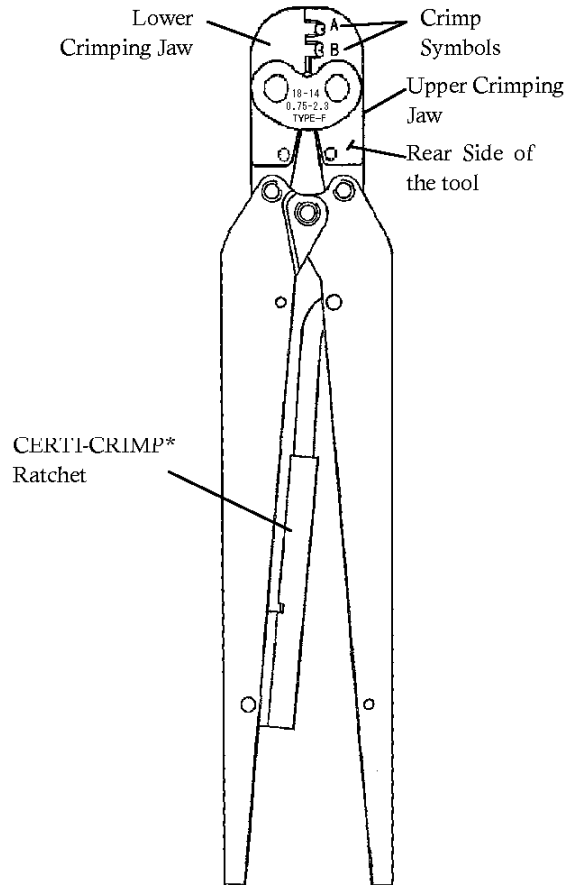

Fig.1
1. The tool (see Fig.1) covered by this Instruction Sheet, crimps the applicable terminals listed in the table (Fig.2) below. These terminals can accept the stranded wires of the listed range. Use these terminals only, purchased as "Loose Piece Form" from TE connectivity. Read this Instruction Sheet carefully before you crimp terminals.